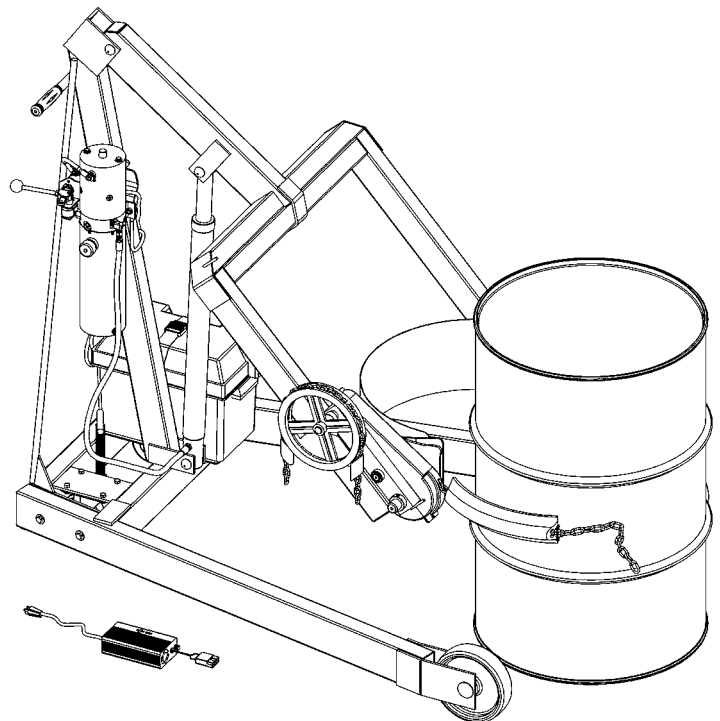

Figure 3.1
The step-down floor lock is located behind the base (figure 3.1). To activate, step down on the floor lock until it locks in down position. When floor lock is activated it prevents unwanted free wheeling of unit. Floor conditions determine effectiveness of floor lock. Operator should verify its holding action before depending on it to hold.
- 2.) Using the "LIFT" control as described in "**Machine Description - Controls**", position the drum holder assembly with the back band at the middle of the drum. (Figure 3.1). With the ratchet plate swung open and the cinch chain hanging from the chain hook, push the unit until the back band rests firmly against the drum. Some adjustment to the tilt angle of the saddle may be necessary to ensure band fits flush on the drum.